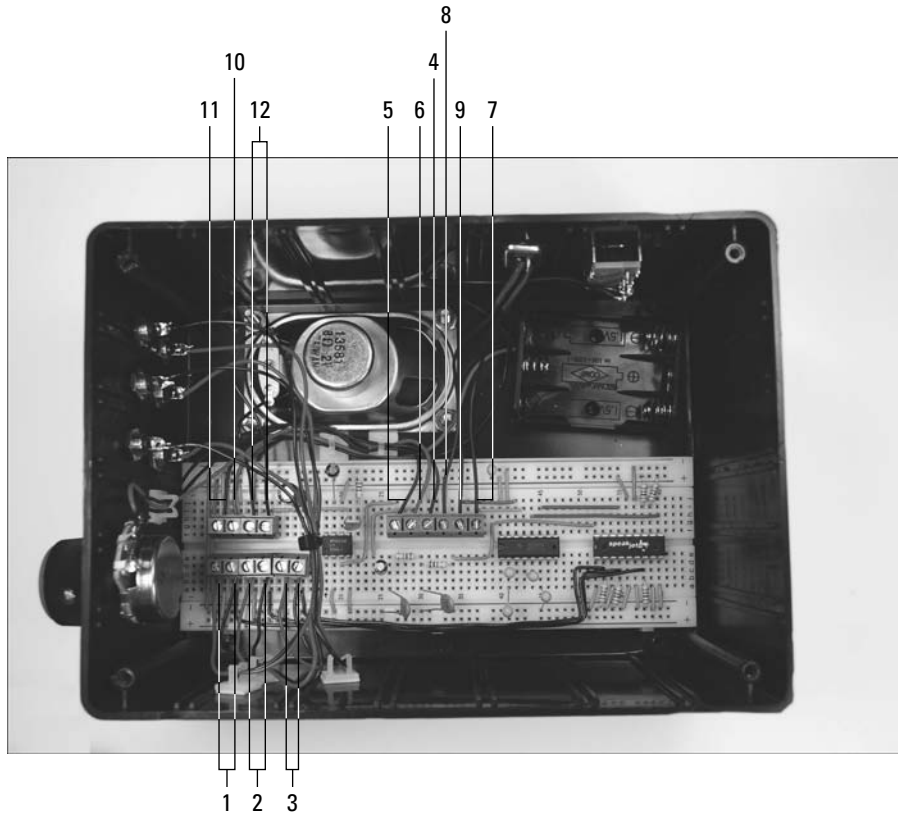

Figure 7-15:
11. **Strip insulation from the ends of cut the wires, insert them in the terminal blocks, and secure with wire clips, as shown in Figure 7-15.**